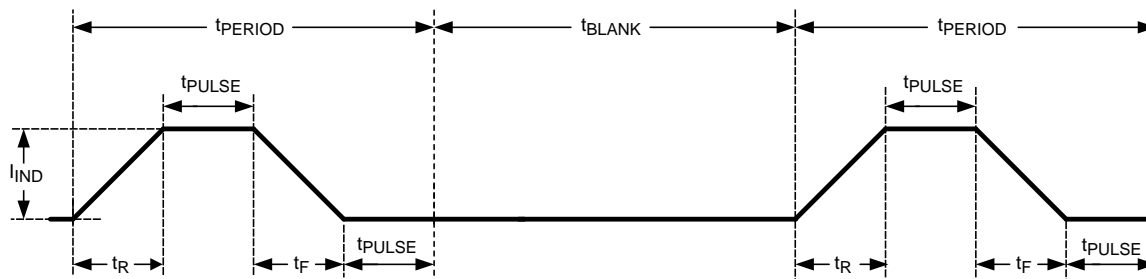

Figure 27. Message Indicator Timing Diagram
2. Number of periods (PERIOD#). This has 8 steps. A period (t_{PERIOD}) is found by ($t_{PERIOD} = t_R + t_F + 2 \times t_{PULSE}$). (See Figure 27 for indicator timing).